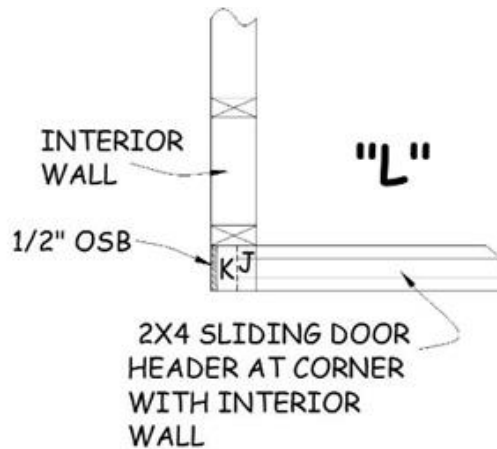

Figure 3-9. Interior L-Corner in Flush Sliding Door.
4. Referring to the House Plan, check for flush sliding closet walls that end at an inside corner of the closet (typically adjoining the 25" closet end wall). Similar to a plumbing wall, lay out the end of the flush sliding wall with a 3½" sandwich of Jack stud, King stud, and ½" of OSB (see Figure 3-9).